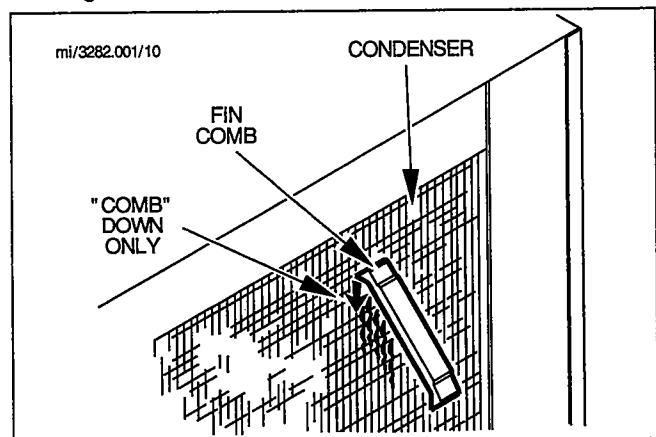

FIGURE 10. STRAIGHTEN BENT CONDENSER FINS
3. Straighten any bent condenser fins with a fin comb, Figure 10.